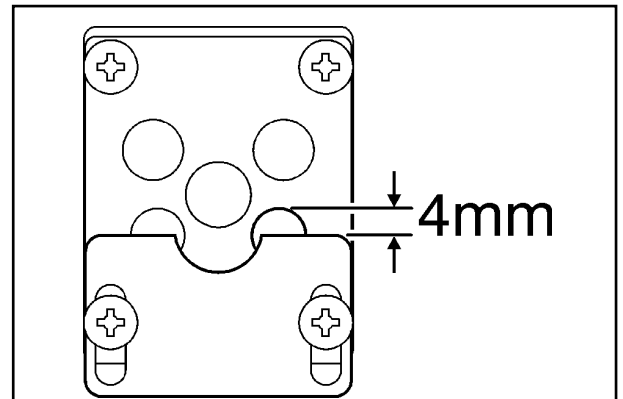

Figure 30. Aeration shutter setting
1. The aeration shutter is factory set and should not require adjustment. If the shutter is not as shown in figure 30 and requires adjustment, loosen the two aeration shutter screws, slide the aeration shutter to the position shown in figure 30 and tighten the fixing screws.